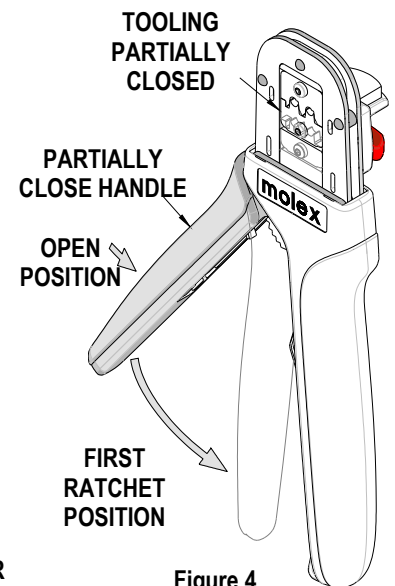

Figure 4
5. Partially close the tool handle until the first ratchet position engages, and holds the terminal in place. See Figure 4.